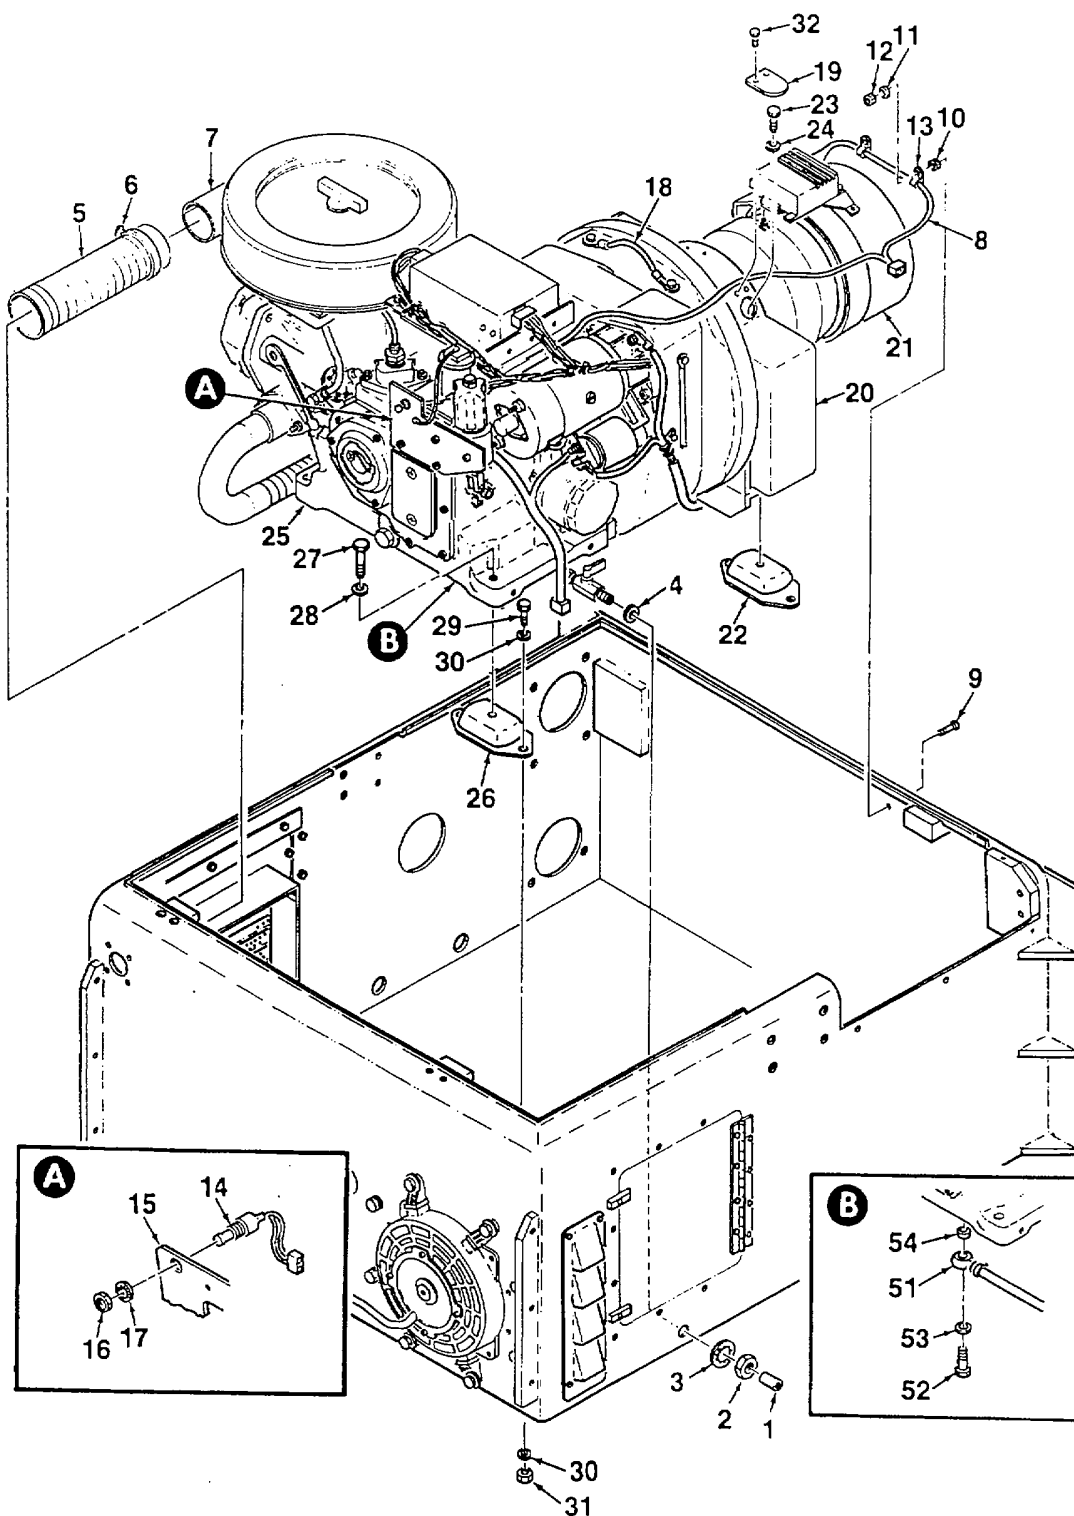

Figure 5-1. Engine /Alternator Assembly
2. Remove oil drain plug (1, Figure 5-1), nut (2), and washer (3) to release oil drain assembly from APU enclosure. Remove and retain washer (4).
3. Remove air inlet hose (5) from engine air fitter (7) by loosening clamp (6).
4. Release electrical wiring harness (8) from back wall of APU enclosure by removing screws (9), nuts (10), washers (11), and nuts (12). Remove clamps (13) only if replacement is required.
5. Remove manual start switch (14) from mounting bracket (15) by removing nut (16) and washer (17).